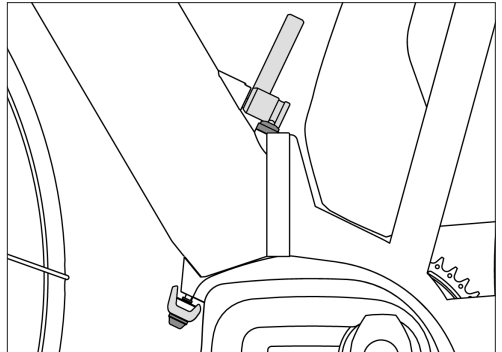

Fig. 31: Press down the frame quick release to allow the frame to fold.
4. Press straight down on the center of the frame quick release. The skewer should depress and will release the quick release clamp on the underside of the frame (Fig 31).